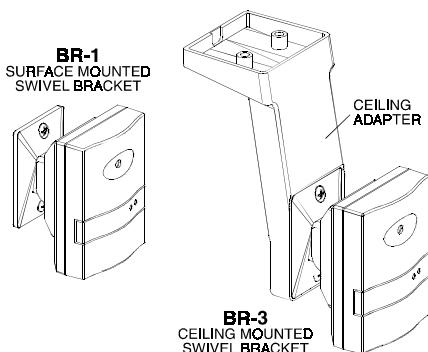

Figure 4. Optional Swivel Mounting Brackets
3.6. Optional Mounting Brackets (Fig. 4)